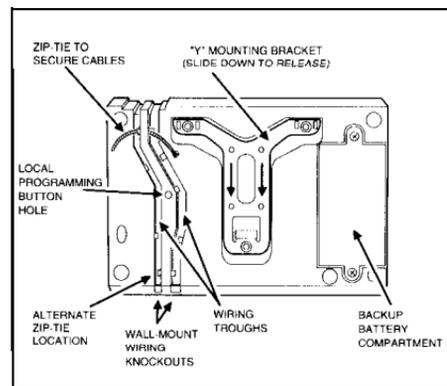

Figure 8. Console Base and "Y" Mounting
The Console can be permanently screw-mounted to a table or shelf using the small "Y" mounting bracket that snaps into the rear of the case (see Figure 8). If practical, the Console can simply be placed on a desk or shelf without screw-mounting.
STEP 3: Plug the transformer cord into the power connector. UL requires use of the zip-tie and strain relief provided to secure the power cable to the console base and wall socket (see Figures 8 and 8A).